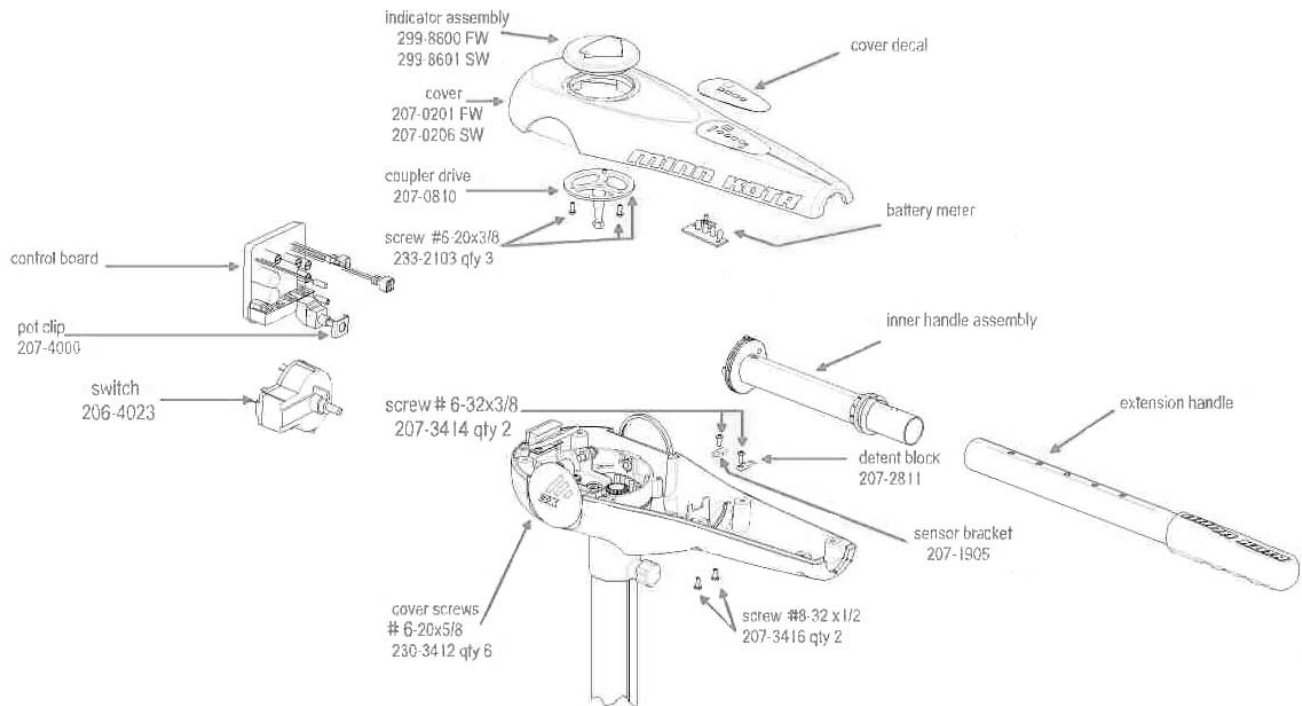

Fig. 3
- Step 1.** Start by removing the extension handle from the inner handle by pressing down on the handle by pressing down on the handle latch / detent button located on the top side of the handle near the control box. With latch button depressed, slide the extension handle off and clear of the inner handle. (see **Fig. 3, page 17-2**)
- Step 2.** Remove the six Phillips, pan head screws (#6-20 x 5/8”) located on the underside of the control box assembly. (2 screws at front, middle, and rear of control box) (see **Fig. 3, page 17-2**)
- Step 3.** Lift up the inner handle assembly along with the handle pivot, handle bearing, and potentiometer (variable-speed motors) or speed selector switch (5-speed motors). Disengage the inner handle assembly from the “D” shaft on the potentiometer/switch, remove the inner handle, and set it aside for reassembly. (see Fig. 3)
- A-2.** On variable-speed 3X models, loosen the Phillips pan head screw (P/N 2073414, #6-32 x 3/8”) holding the P/N 2071905 sensor bracket in place. (Sensor bracket is located in control box along side the potentiometer support.) Loosening the screw allows removal of the magnetic on/off reed switch attached to wires exiting the control box. (On/off reed switch is the small 5/8” long, 3/16” diameter black cylinder with 2 small black wires attached.) Then remove the two P/N 2073416, #8-32 x 1/2” socket head cap screws (located in recessed openings on the underside of the control box) using a 9/64” allen wrench/driver. The control board is then free to be removed. (see Fig. 3)
**Step 10.** Re-install the control board or 5-speed switch using the fasteners or parts removed during disassembly. (see Fig. 3, page 17-2)